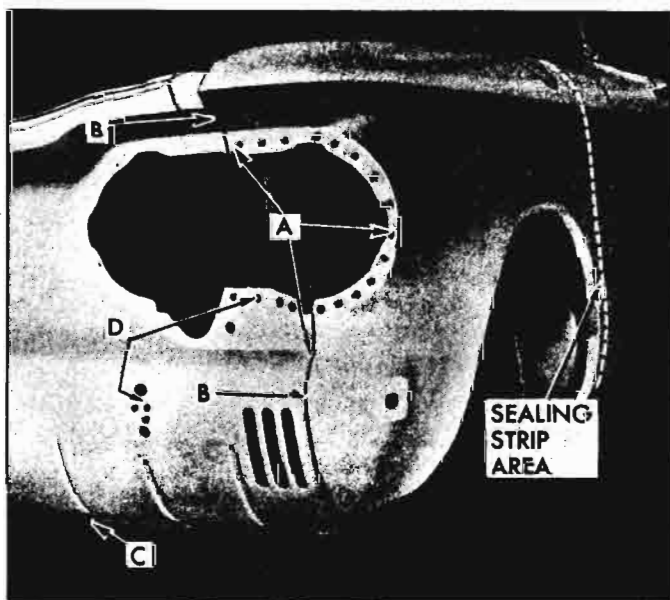

Fig. 10-12—Fender Panel and Front End Panel Welds in Headlamp Area (Typical)
8. Cut spot welds that attach front fender panel to body front panel assembly and headlamp pocket panel indicated at "A" in Figure 10-12.
9. Along upper inner edge (gutter area), cut spot welds that secure fender panel to wheelhouse upper panel indicated at "A," Figure 10-12.
10. Cut spot welds securing fender panel to cowl top center panel indicated, "B" in Figure 10-12. If windshield has been removed, cut welds securing fender panel to windshield pinchweld indicated at "C," Figure 10-12.
6. If old fender panel was removed by cutting ahead of windshield opening, complete splicing operation (including solder filling). Use care not to burn windshield rubber channel or rubber sealing strip which is installed between cowl lower panel and fender outer panel as indicated in Figure 10-12.
6. Using drill or air chisel, cut spot welds securing front end panel assembly to front fenders at locations indicated at "B" in Figure 10-12.
7. Cut spot welds securing front end panel assembly to front compartment front cross rail indicated at "C" in Figure 10-12.
8. Cut spot welds attaching front end panel assembly to bumper supports and headlamp pockets indicated at "D" in Figure 10-12.